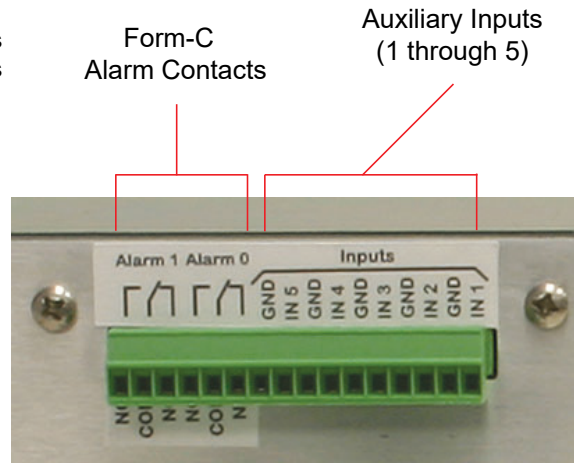

Figure 9: Alarm terminals. Normally open and normally closed terminals are available.
- 4) If you have a supervisory alarm system, connect its wiring harness to the alarm terminal screws (Form-C) at the back of the Control Unit. Refer to **Figure 9**. There are two sets of alarm contacts provided for convenience (Alarm 0 and Alarm 1). The alarm contact sets will change state in tandem so either or both can be connected to the supervisory alarm system. When an alarm event occurs the contacts will change state and when the event clears the contacts will change back to their original state.
There are 5 auxiliary input ports on the rear panel of the control unit as shown in **Figure 9**. The inputs are labeled IN1 through IN5. These ports allow the system installer to connect alarm outputs from third-party equipment located in the shelter into the TTA system. This will allow the TTA systems extensive reporting features (Form-C, SNMP, SMTP, and SMS) to be used by the third-party equipment for alarm notifications.